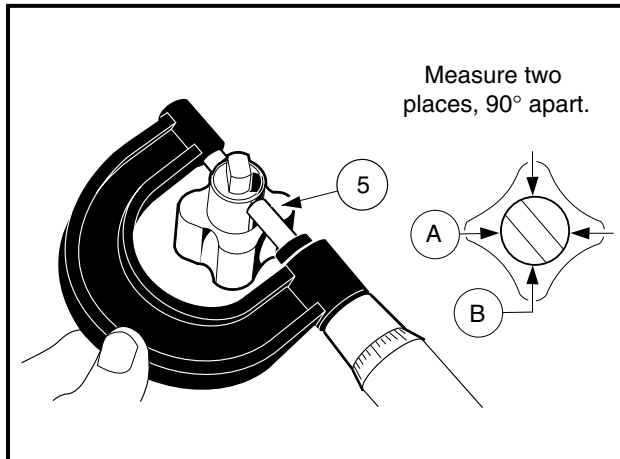

Figure 18-59 Measure Pump Shaft Bearing Surface
- 4.1. Measure the pump shaft bearing surface. Replace both rotors as a set if the measurement is less than 0.4971 inch (12.627 mm) (**Figure 18-59, Page 18-30**).